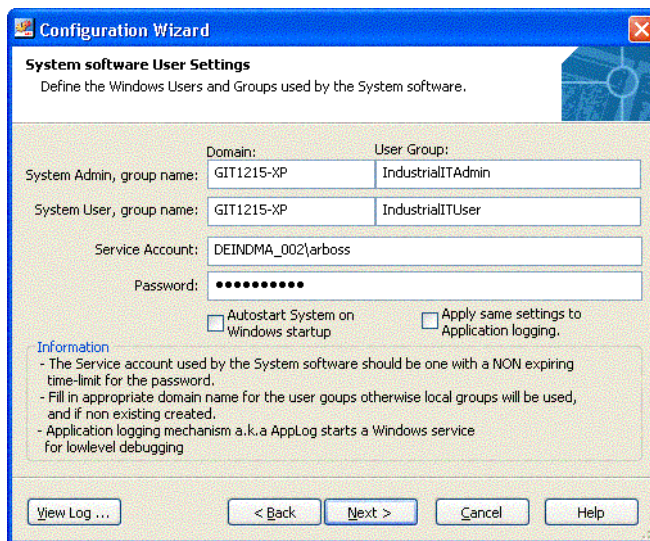

Figure 3. System Software User Settings Dialog.
1. Using the Windows service - If the **Autostart System on Windows startup** check box shown in Figure 3 is selected, the system is automatically started when Windows operating system is started.